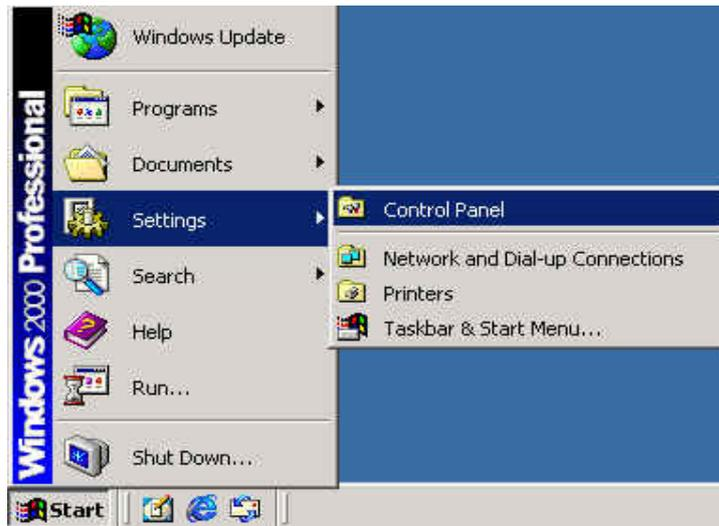

Figure 6-7. Select settings
Step 1: Click “Start” in the task bar, then click Settings/Control Panel as shown in figure 6-7.